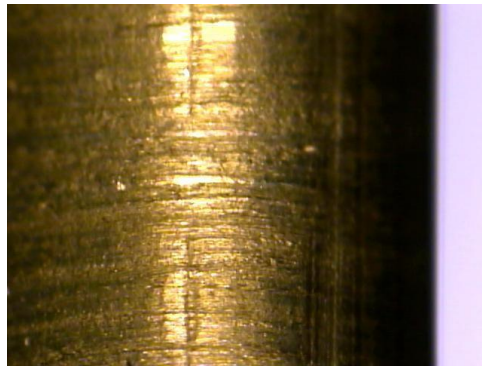

Figure 4: Eyelashing on the bead of an aluminum can magnified 88 times
3. Eyelashing: When an aluminum can's dome and curl are formed it is accomplished by continually reducing the diameter of the previously formed aluminum tube. As a result of this reduction in the diameter, the aluminum metal gets small wrinkles on the can curl called eyelashing (see Figure 4). This is most important because the wrinkles run from the can's inside to the outside providing a path for leakage if not properly sealed. Some manufactures machine the top of the curl to remove the eyelashing.